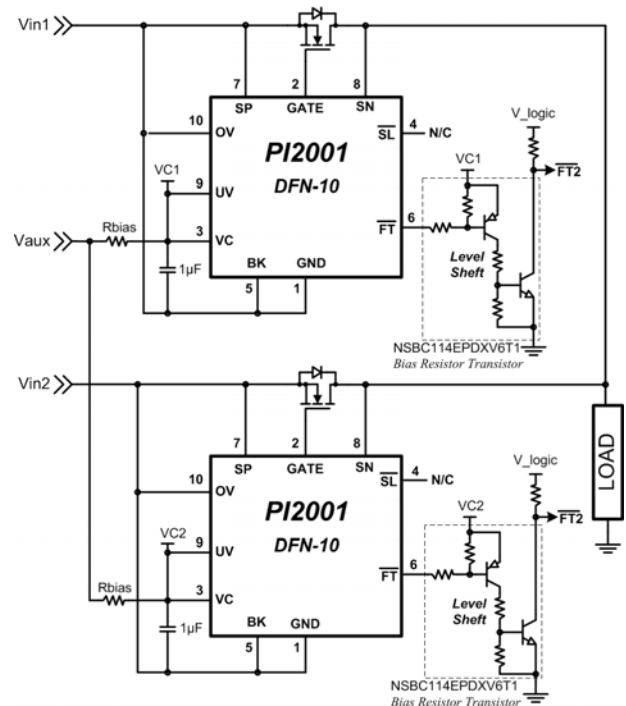

Figure 16: PI2001 in floating application: example 2
1. A single PI2001 with suitable external MOSFET for each redundant 12V power source should be used, configured in a high-side floating configuration as shown in the circuit schematic in Figure 16. The controller is floated on V_{in} by connecting the controller ground pin to the input voltage V_{in} .
7. \overline{FT} pin: The \overline{FT} pin output is referenced to the PI2001 GND pin which is connected to Vin. A level shift circuit can be added to make the \overline{FT} pin output referenced to the system ground. The recommended level shift circuit is shown in Figure 16, The level shift circuit uses a Dual Bias Resistor Transistor circuit which is available as a small device that contains two transistors and their bias resistors, part number NSBC114EPDXV6T1.